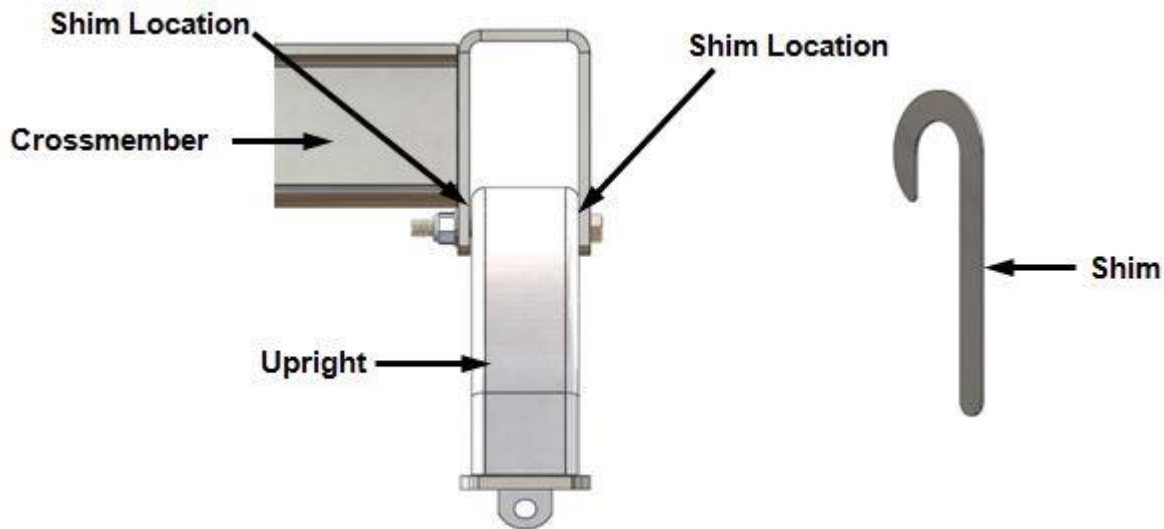

Figure: 5
12. Check each rail hitch pin for freedom of movement in the bed rail connection before tightening the 5/8" bolts and nuts. Adjust uprights, if necessary, by placing shim 31582 or 30243 between the upright and the cross member to obtain free pin movement. See Figure 5. Shims 31582 & 30243 sold separately